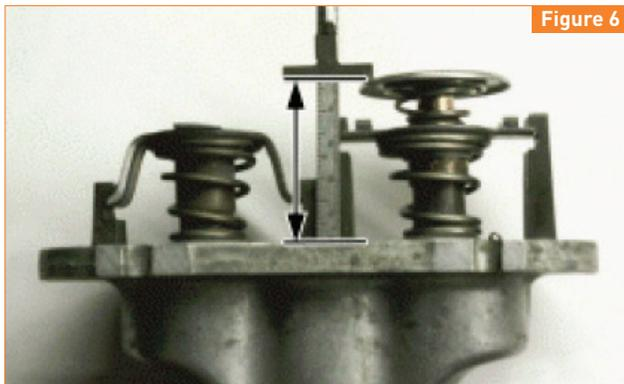

Figure 6
05. Factory thermostats are prone to overextension, which results in thermal spikes within the radiator and potential damage. remove the factory thermostat housing and inspect the bypass thermostat for extension distance from the mounting surface (**Figure 6**). This distance should be no greater than 45mm. In the case if this distance is greater than 45mm, replace the thermostat.